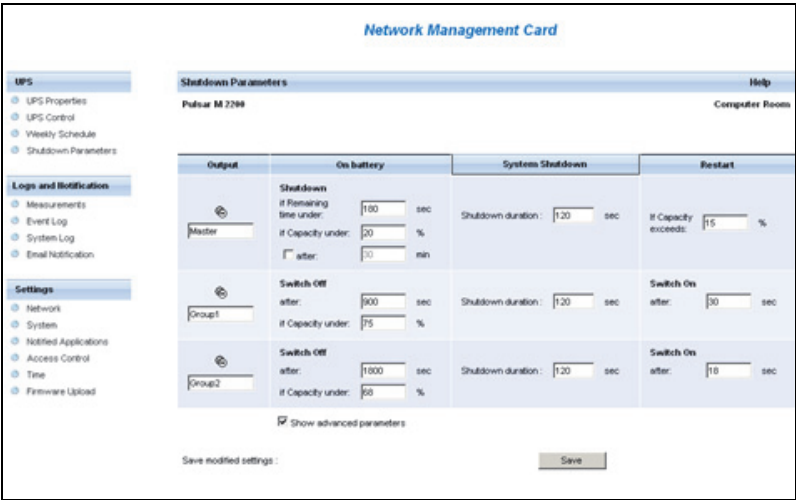

Figure 60. Network Management Card Web Interface
- For Network-MS (example, 66102/103006826) and Modbus-MS (example, 66103), the default configuration for the Network Management Card shutdown configuration is available from **UPS > Shutdown Configuration** (see Figure 60).